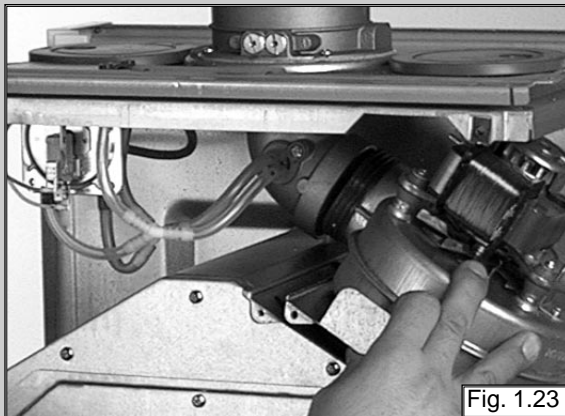

Fig. 1.23
2. Pull fan to the right and forward and remove (see fig. 1.23);